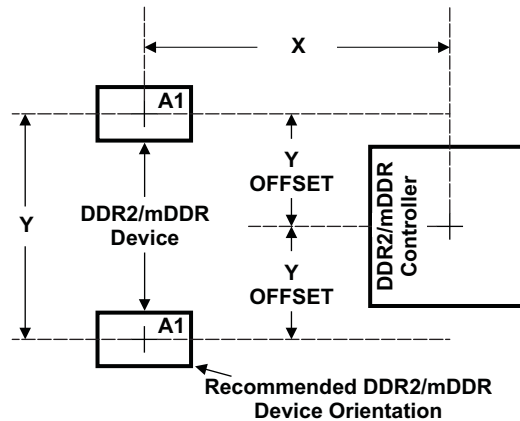

Figure 5-20. OMAP-L138 and DDR2/mDDR Device Placement
Figure 5-19 shows the required placement for the device as well as the DDR2/mDDR devices. The dimensions for Figure 5-20 are defined in Table 5-30. The placement does not restrict the side of the PCB that the devices are mounted on. The ultimate purpose of the placement is to limit the maximum trace lengths and allow for proper routing space. For single-memory DDR2/mDDR systems, the second DDR2/mDDR device is omitted from the placement.
- (1) See Figure 5-20 for dimension definitions.
- (2) Measurements from center of device to center of DDR2/mDDR device.
- (3) For single memory systems it is recommended that Y Offset be as small as possible.
- (4) Non-DDR2/mDDR signals allowed within DDR2/mDDR keepout region provided they are separated from DDR2/mDDR routing layers by a ground plane.
- (5) w = PCB trace width as defined in Table 5-29.